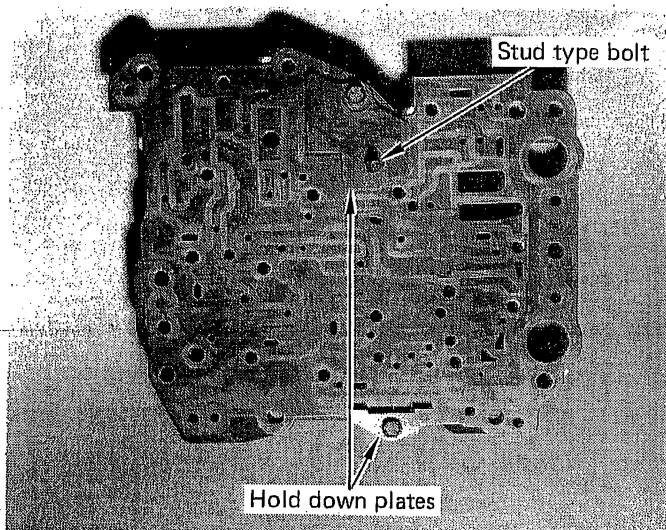
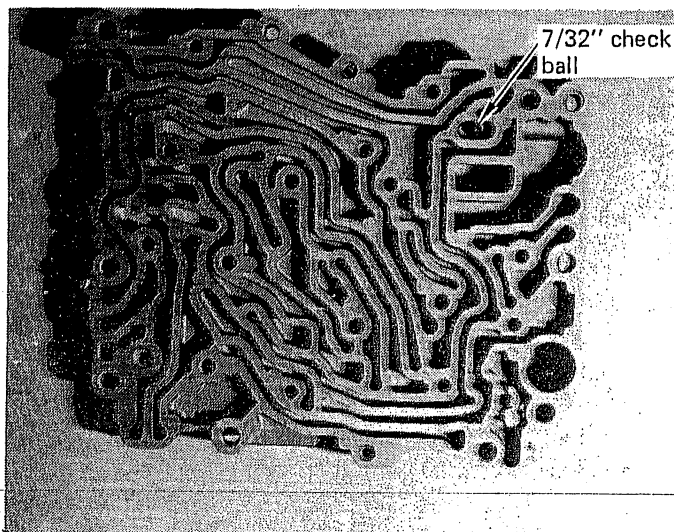

FIGURE 8
FIGURE 9
STEP 12. Place the transfer plate assembly in front of you with the separator plate up. (See Fig. 8) Note the position of the hold-down plates, especially the stud-type bolt on the large plate. Remove the hold-down plates and the separator plate. Remove the plastic check ball and set it aside. (See Fig. 9)
STEP 15. Lay the transfer plate in front of you with the passages up. Install plastic check ball in position shown in Figure 9. Install separator plate in place on transfer plate. Do not use a gasket. Install hold-down plates in their proper positions. (See Fig. 8) Install bolts in place with stud-bolt in proper location and tighten bolts finger tight.